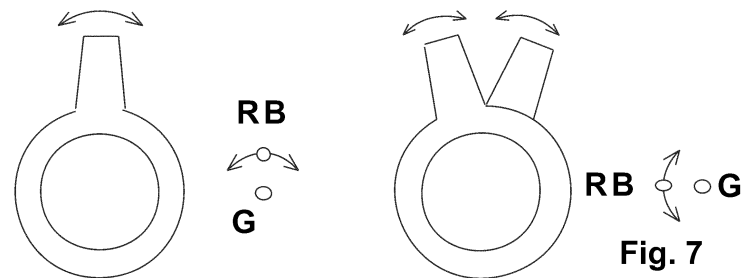

Fig. 7
2. Align red / blue with green dots at the center of the screen by rotating (RB-G) C.P. Magnet. (See Fig. 7)